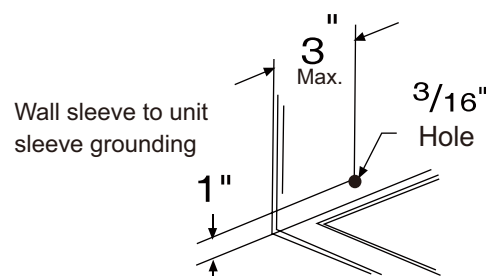

Fig.2
3. If not existing, drill a 3/16" clearance hole for grounding screw through left side of wall sleeve, in a clear area about 3 inches maximum back from front edge of sleeve, using grounding screw and toothed washer. Pull loose end of ground wire out front of sleeve, and temporarily bend it down and around lower edge of sleeve (Fig.2). This ground wire will later be attached to frame of air conditioner once it is installed.